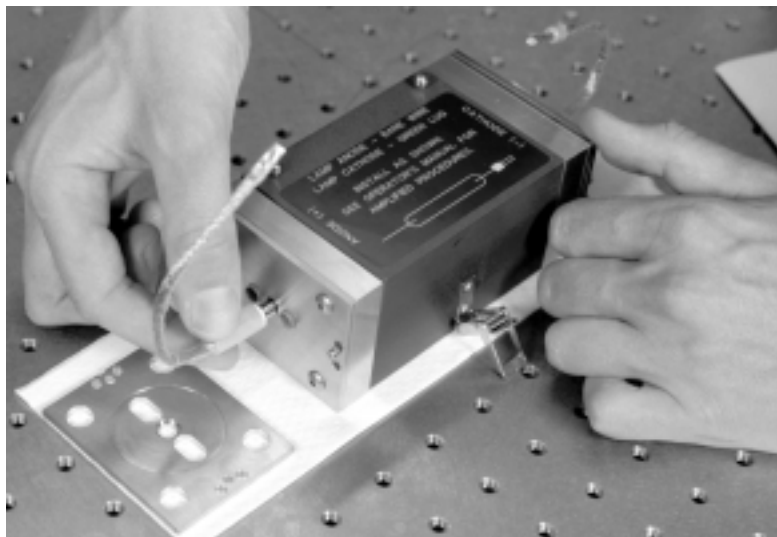

Figure 6-11. Position the Second O-ring as Shown Using the Plastic Tubing Supplied with the Flash Lamp
7. Use the plastic tubing to push the other O-ring into place on the left side, Figure 6-11.